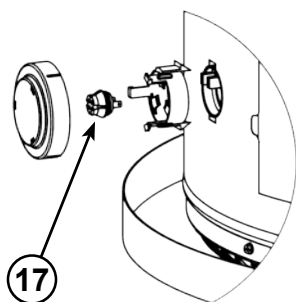

Figure 50.
- 17 Flammable Vapor Sensor (under cover) (see Figure 5) (see also Figure 50)